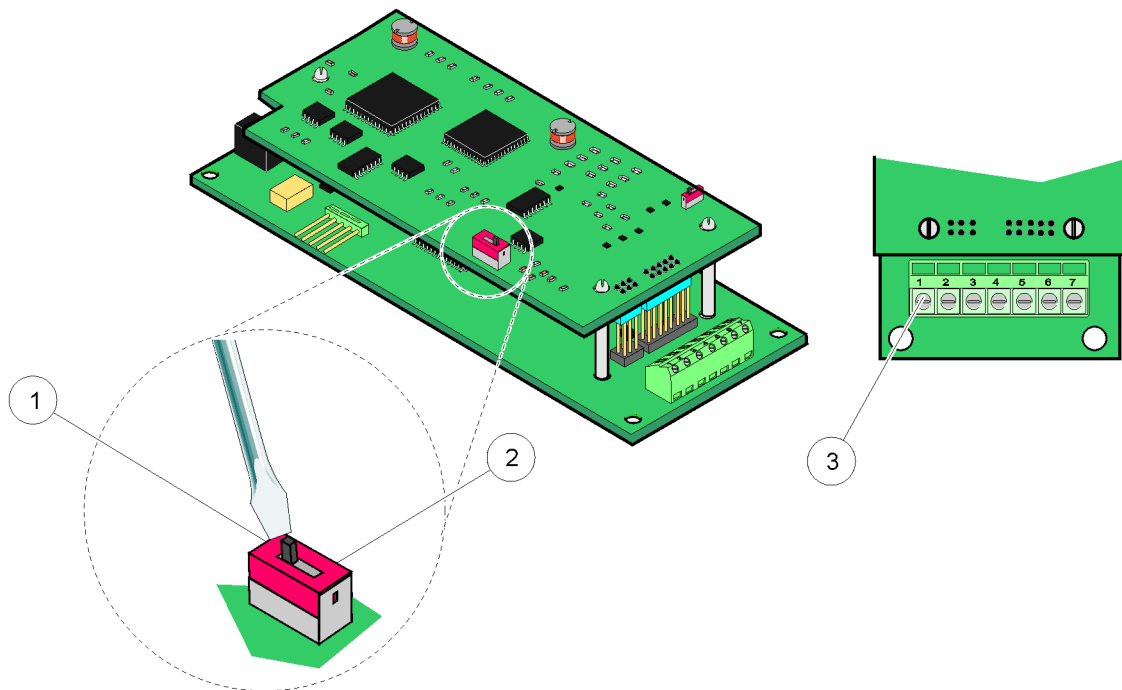
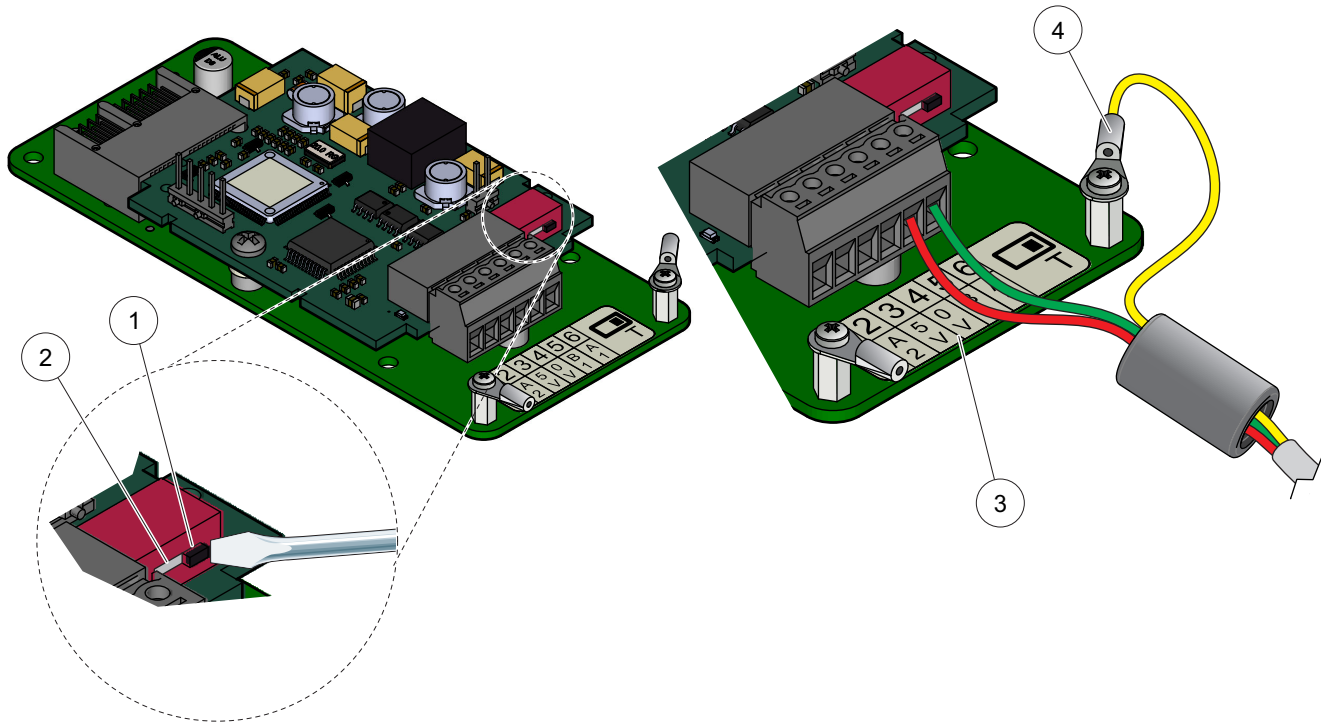

Figure 25 Profibus DP card (YAB020 up to December 2013) connections
Figure 26 Profibus DP card (YAB103/YAB105 since December 2013) connections
4. Feed the cable through the base of the module and properly prepare and insert each wire into the terminal according to Figure 25 and Table 8 or Figure 26 and Table 9. Make sure that the shield is connected to a threaded spacer on the board.